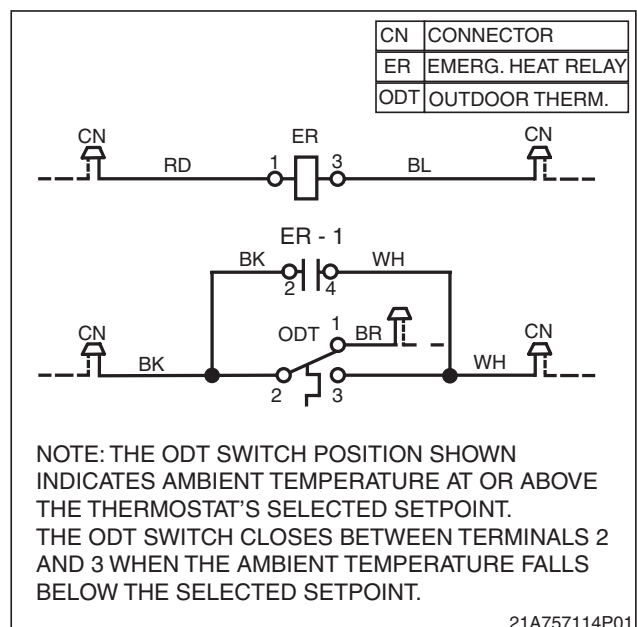

Figure 1 – BAYSTAT033AC Wiring Schematic
3. If the red and blue wires are not required in your particular application, remove them from the emergency heat relay coil and discard. This will prevent them from short-circuiting. (See Figure 1).